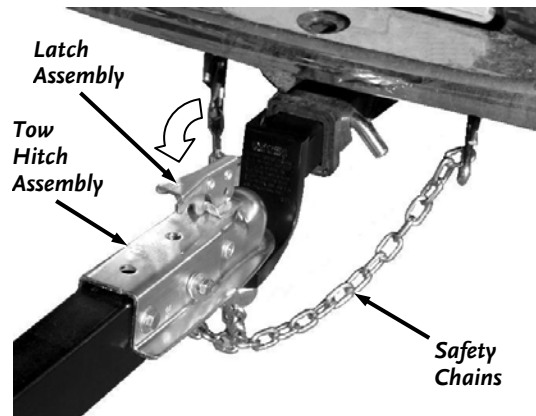

Figure 32
4. Close the Latch Assembly on the Tow Hitch Assembly to lock it onto the Tow Ball (**Figure 32**). Attach the towing Safety Chains to the tow vehicle ensuring there is enough slack for turning.